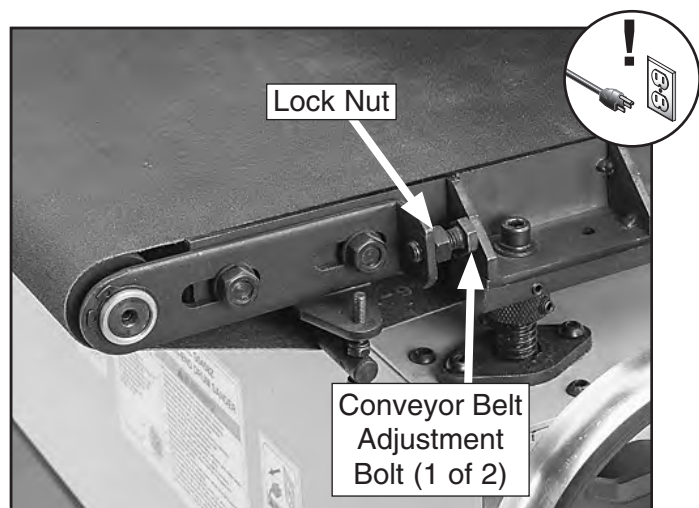

Figure 37. Conveyor coarse tracking controls.
- If the belt tracks toward the right, loosen lock nut shown in **Figure 37** and rotate the right-side conveyor belt adjustment bolt *counterclockwise* to move belt left.
- If the belt tracks toward the left, loosen lock nut shown in **Figure 37** and rotate the right-side conveyor belt adjustment bolt *clockwise* to move belt right.